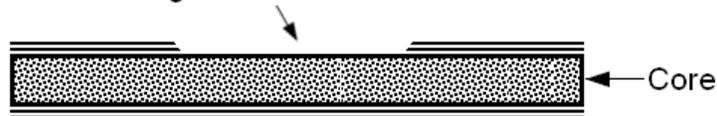

Figure 51-37 Same Area after Grinding the Damaged Layers
- Carefully grind out the inner/outer ply (or plies) the damaged area is completely removed as shown in Figure 51-37.